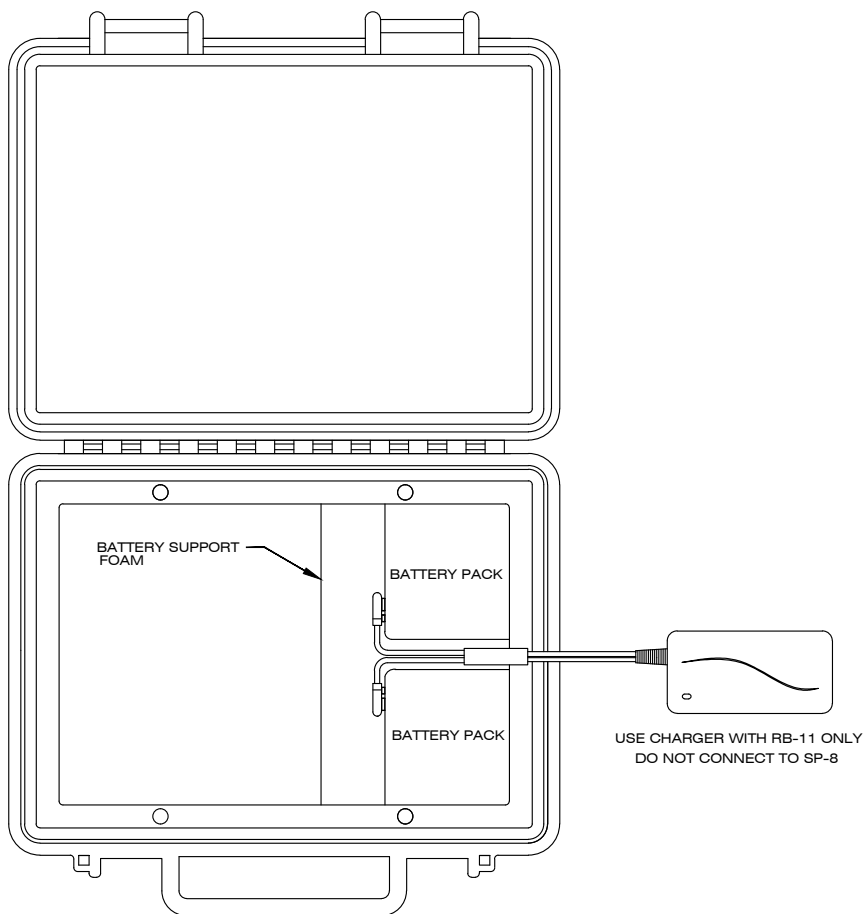

FIGURE 3
2) Installation (Figure 3):
The batteries may be charged inside the ComBox. The front panel of the ComBox must be removed, however, to reach the battery snaps of the RCS-18 charger to the snaps of the battery pack (Figure 3, p.10). Using the RCS-18 charger, use a 90-260-volt, 50/60-cycle outlet. Full charge is completed in 4-6 hours.